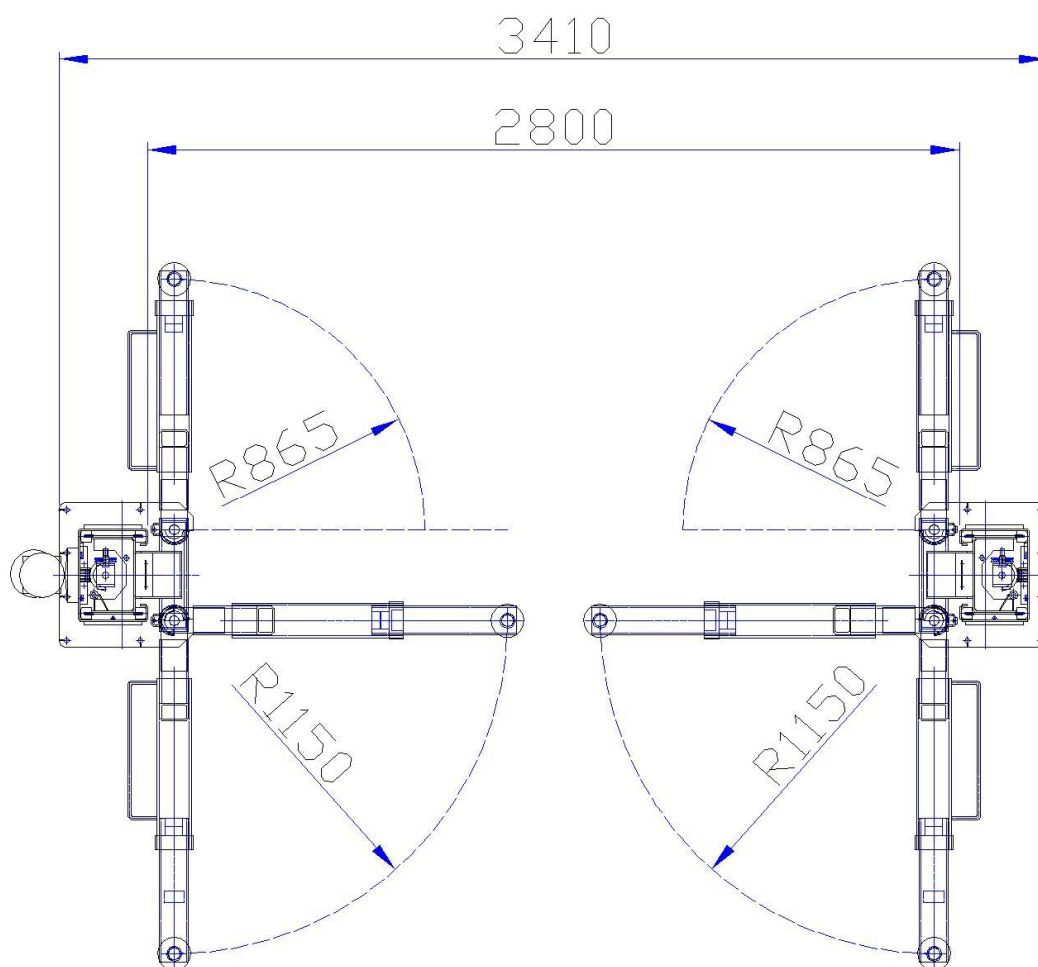

图3-1. 举升机的主要结构
*This lift (see Fig.3-1) is suitable for cars' service and maintenance, its characteristics is as follows:*